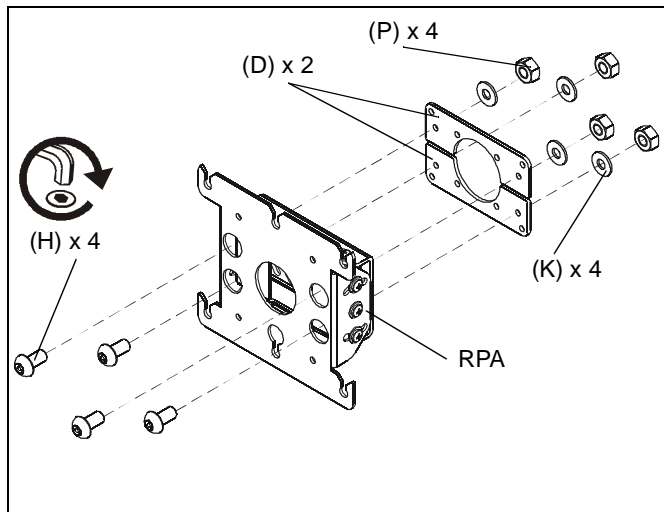

Figure 4
3. **For the RPA only** attach two interface brackets (D) to the RPA using four 1/4-20x3/4" buttonhead screws (H), four 1/4" flat washers (K) and four 1/4" hex nuts (P). (See Figure 4)